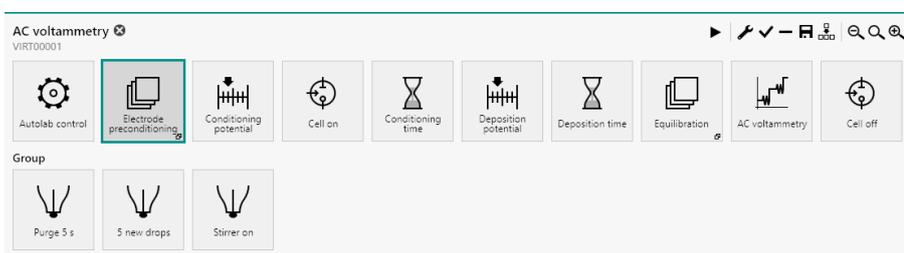

Figure 647 The Electrode preconditioning group
- **Electrode preconditioning:** this command group is used to create new mercury drops at the beginning of the procedure. The commands in this group are used to purge the solution for the specified duration, create the specified number of new drops and switch the stirrer on (see Figure 647, page 536).